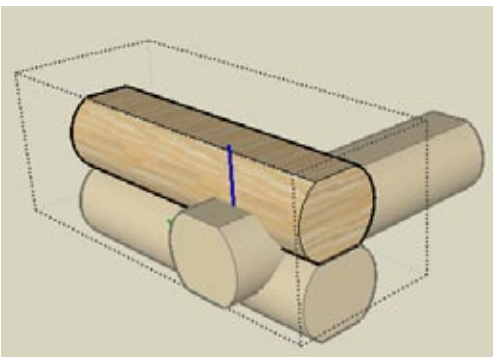

Figure 3-67
3. When real logs are stacked to make a cabin, they extend past the notch. So each log needs to protrude past where they all currently meet. Change the Components page of the Model Info window so that other components are now visible while editing. Edit any log and extend its front so that all logs overlap (Figure 3-67).